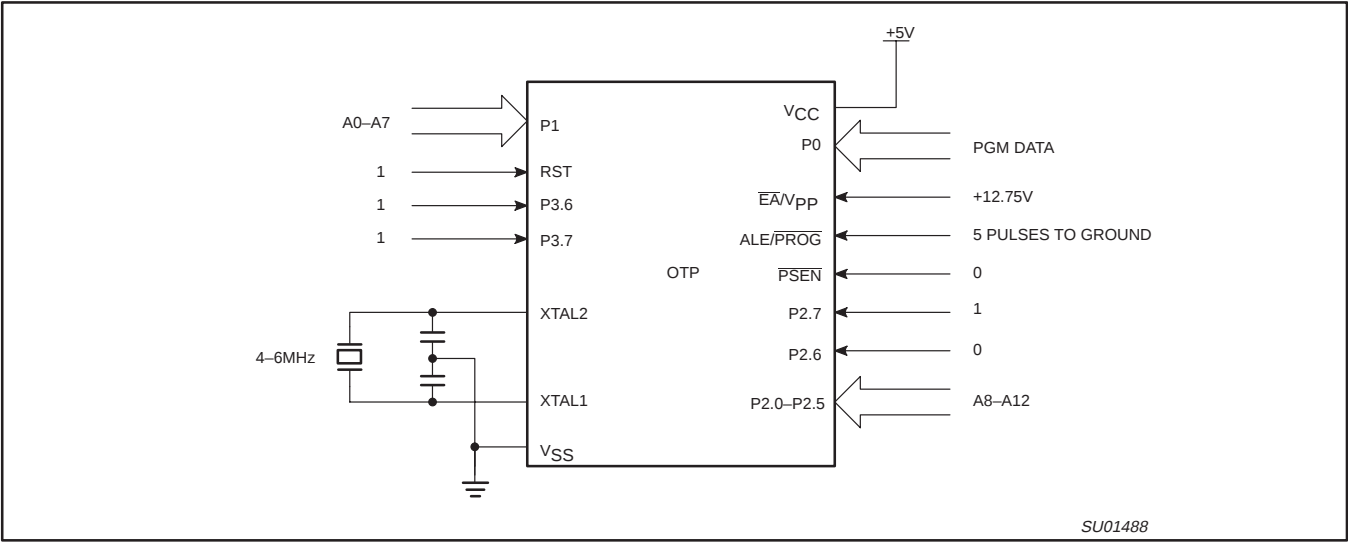
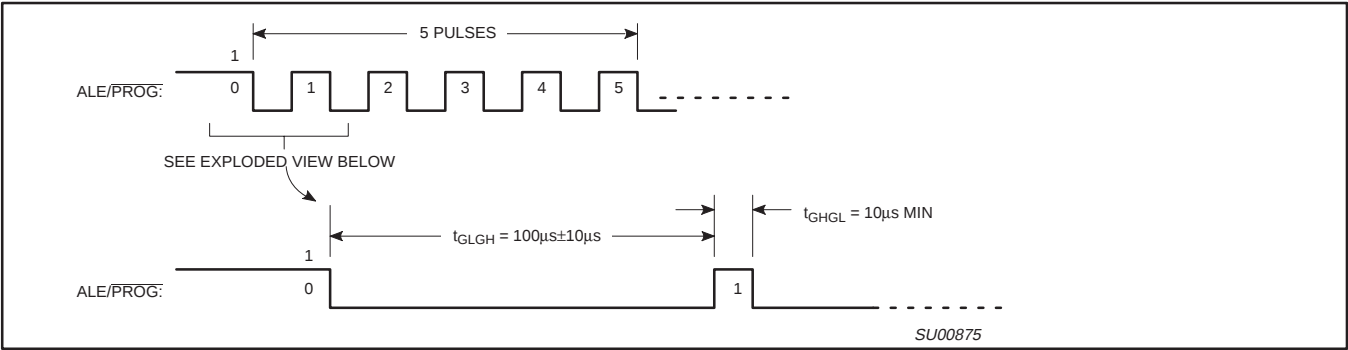
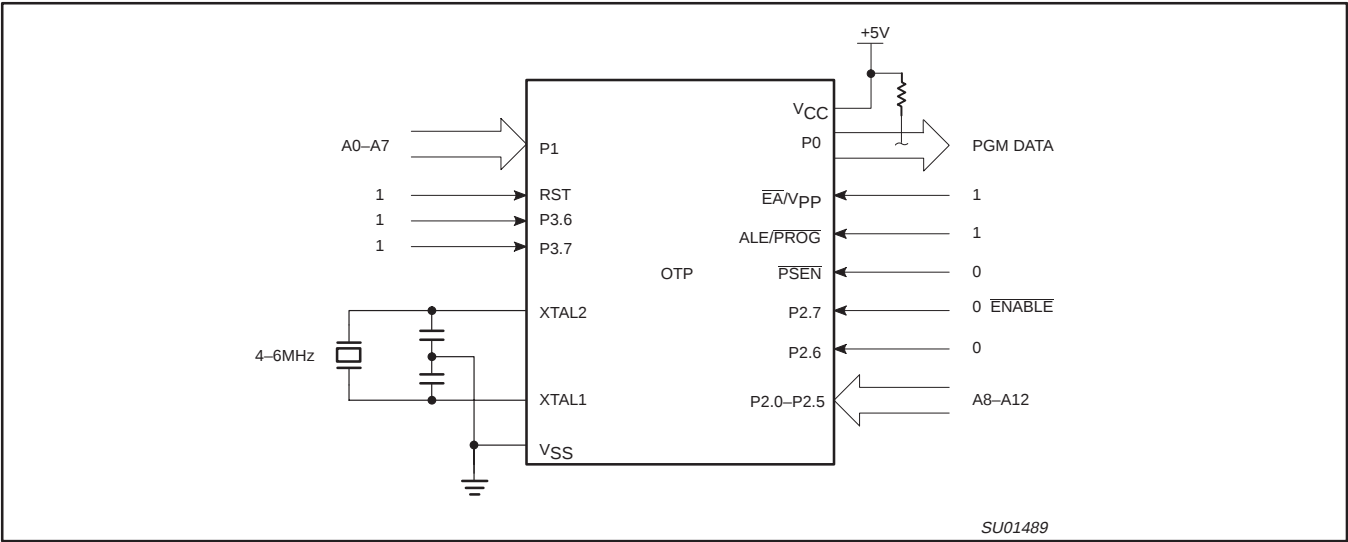

Figure 33. Programming Configuration
Figure 34. PROG Waveform
Figure 35. Program Verification
Table 8 shows the logic levels for reading the signature byte, and for programming the program memory, the encryption table, and the security bits. The circuit configuration and waveforms for quick-pulse programming are shown in Figures 33 and 34. Figure 35 shows the circuit configuration for normal program memory verification.
The setup for microcontroller quick-pulse programming is shown in Figure 33. Note that the device is running with a 4 to 6 MHz oscillator. The reason the oscillator needs to be running is that the device is executing internal address and program data transfers.
The address of the EPROM location to be programmed is applied to ports 1 and 2, as shown in Figure 33. The code byte to be programmed into that location is applied to port 0. RST, $\overline{P}SEN$ and pins of ports 2 and 3 specified in Table 8 are held at the 'Program Code Data' levels indicated in Table 8. The ALE/ $\overline{P}ROG$ is pulsed low 5 times as shown in Figure 34.
If security bits 2 and 3 have not been programmed, the on-chip program memory can be read out for program verification. The address of the program memory locations to be read is applied to ports 1 and 2 as shown in Figure 35. The other pins are held at the 'Verify Code Data' levels indicated in Table 8. The contents of the address location will be emitted on port 0. External pull-ups are required on port 0 for this operation.
* FOR PROGRAMMING CONFIGURATION SEE FIGURE 33.
FOR VERIFICATION CONDITIONS SEE FIGURE 35.